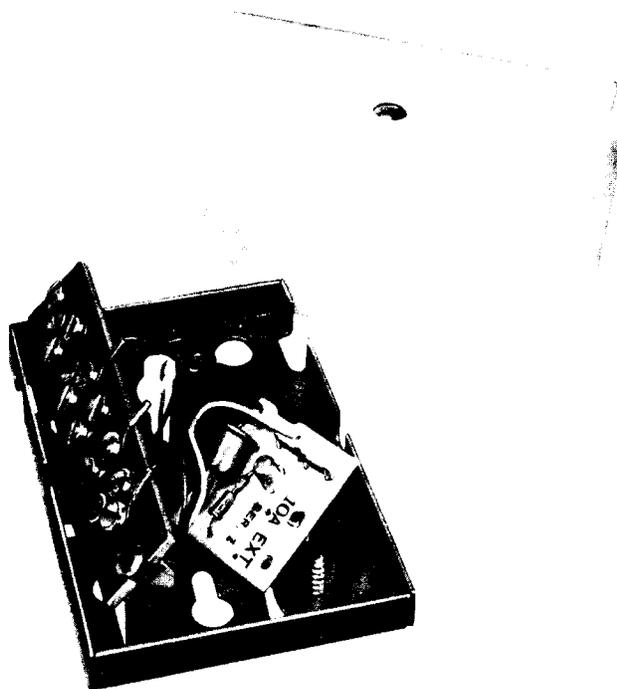

Fig. 4—10A Extender Mounted in 74C Connecting Block
**2.05** The 74C connecting block is similar to the 74A and 74B connecting blocks except that no electron tube is provided. It provides mounting for items which mount the same way as electron tubes, such as a 10A extender (Fig. 4), or other items which mount